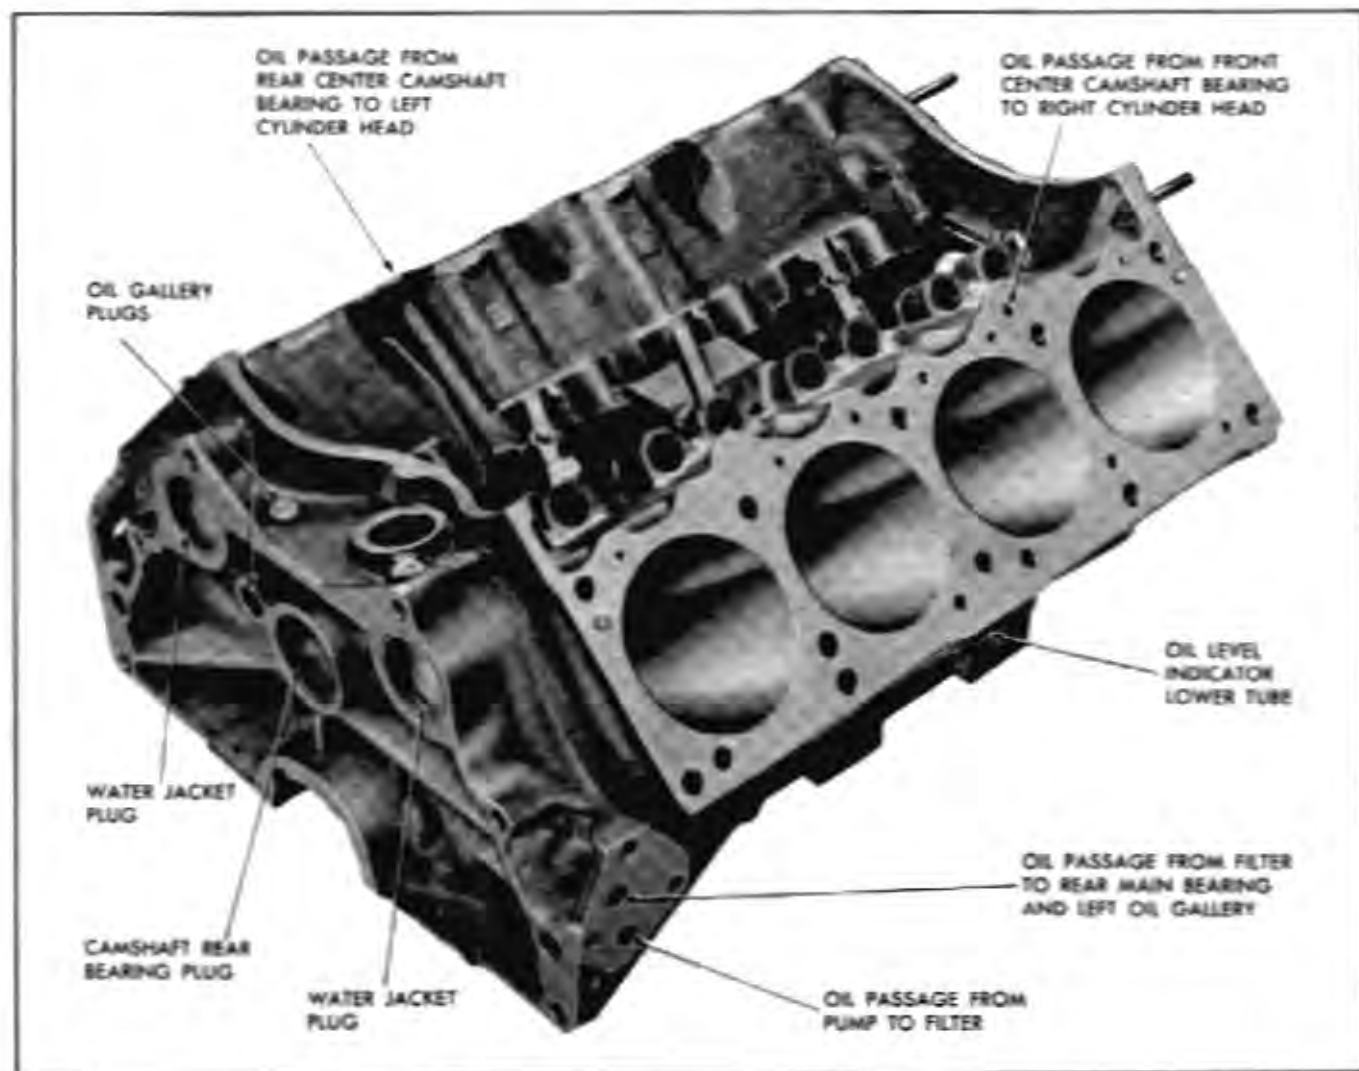
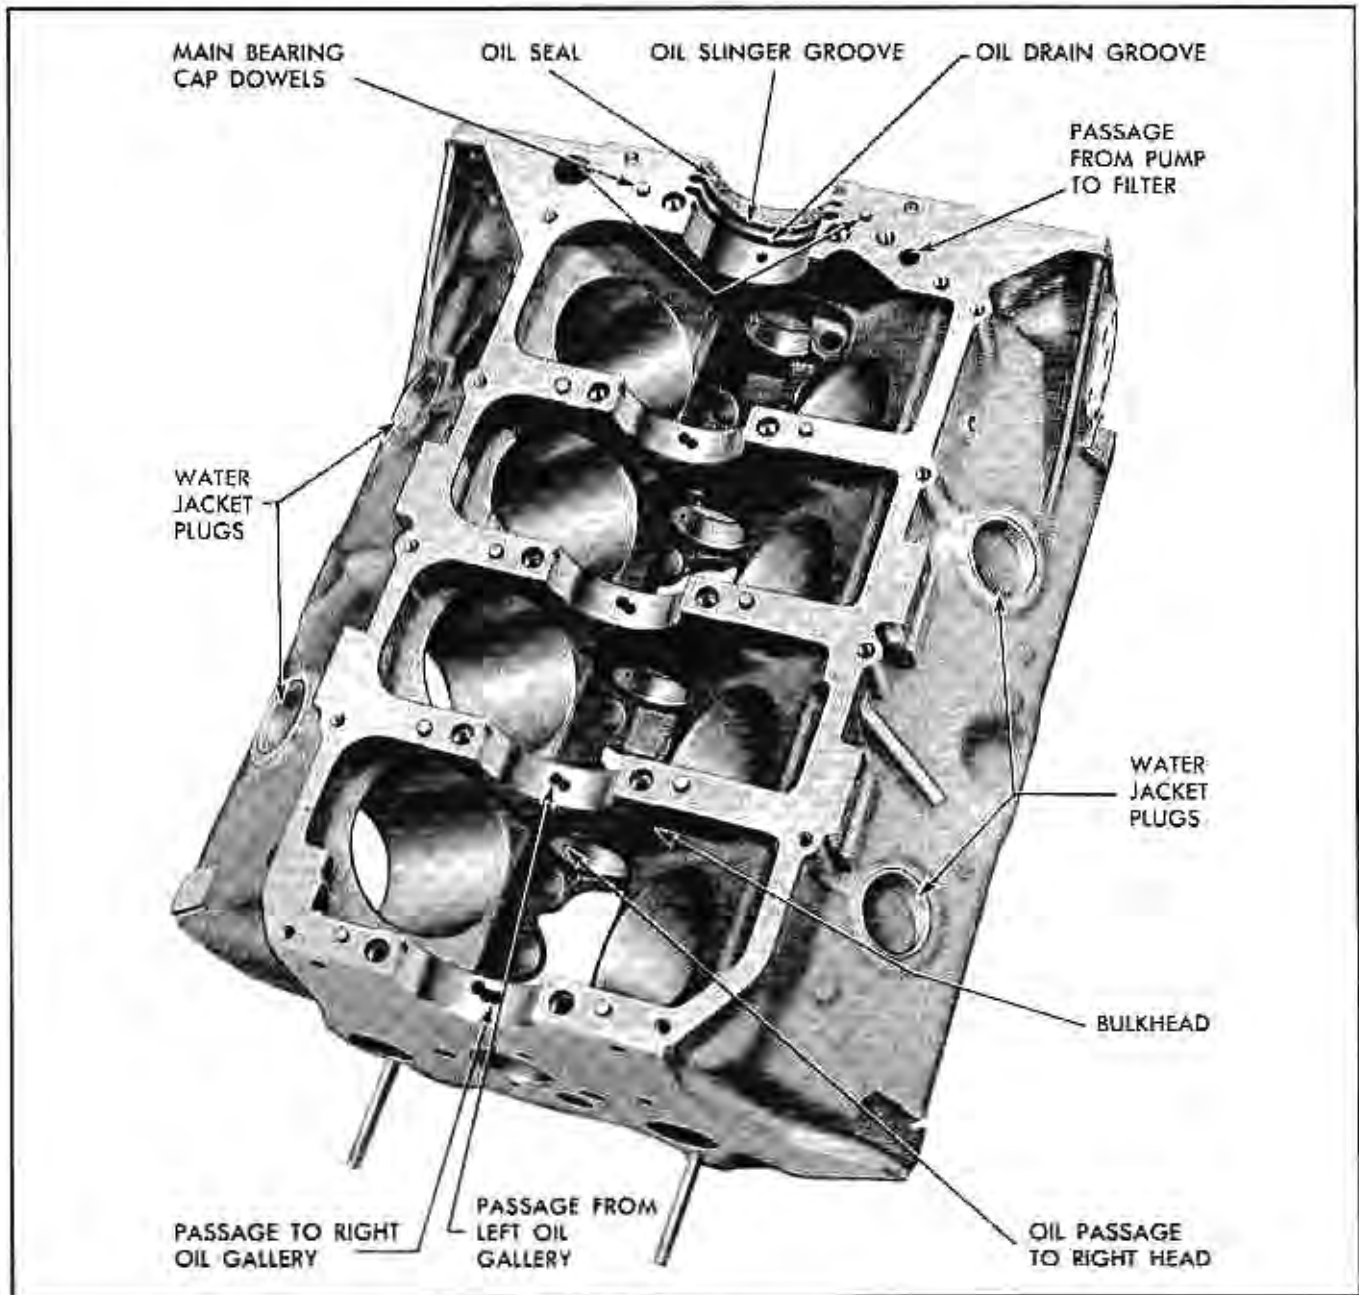

Fig. 6-78 Cylinder Block—View from Right Rear
Fig. 6-79 Cylinder Block—View from Bottom
NOTE: The oil passages (Fig. 6-78) in the block which supply oil from the front center and rear center camshaft bearings to the right and left cylinder heads respectively are considerably larger than the oil holes in the camshaft bearings (Fig. 6-79). Due to this fact, sludge may collect in the passages above these bearings and may subsequently be forced into the oil galleries of the cylinder head, causing possible restriction of oil passages in the rocker arm studs. For this reason these passages should be thoroughly cleaned and inspected.
a. With cylinder block inverted, use pen light to see that passage from oil pump to filter is open (Fig. 6-79).
b. Check passage from filter outlet to rear main bearing by inserting wire in oil filter outlet passage and using pen light to see that wire is visible in passage to rear main bearing (Fig. 6-78).
c. Visually check passage from each main bearing to corresponding camshaft bearing (Fig. 6-79).
g. Visually check passage from rear center camshaft bearing to left cylinder head and passage from front center camshaft bearing to right cylinder head (Fig. 6-78).